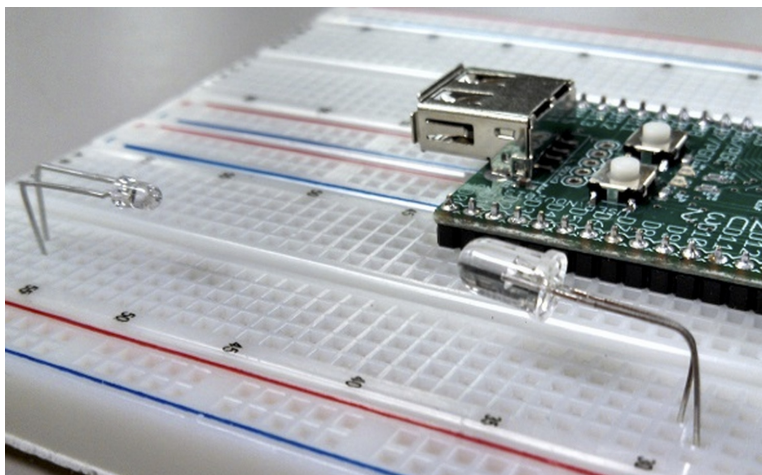

Figure 12.3: The phototransistor (left) and LED (right) pointed toward each other.
2. **Choose  $R$ .** Wire up the circuit as shown in Figure 12.1, except for the connection from the LED to OC1. The LED and phototransistor should be pointing toward each other, with approximately one inch separation, as shown in Figure 12.3. Now choose  $R$  to be as small as possible while ensuring that the voltage  $V_{\text{out}}$  at the phototransistor emitter is close to 3 V when the LED anode is connected to 3.3 V (maximum LED brightness) and close to 0 V when the LED anode is disconnected (the LED is off). (Something in the  $10\ \text{k}\Omega$  range may work, but use a smaller resistance if you can still get the same voltage swing.) Record your value of  $R$ . Now connect the anode of the LED to OC1 for the rest of the project.